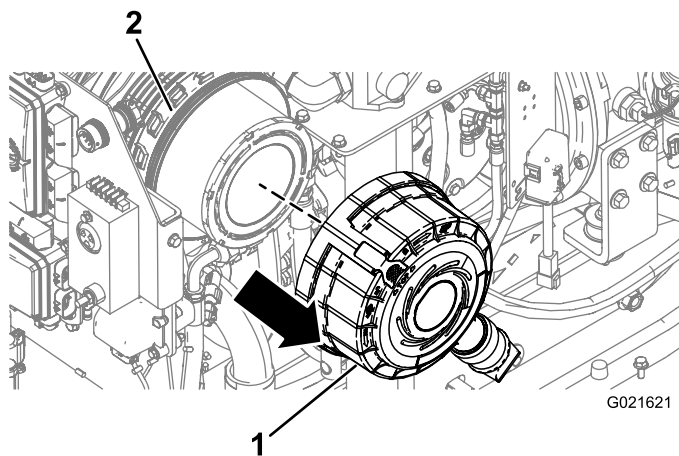

Figure 116
7. Pull the air-cleaner cover away from the filter housing and remove the cover (Figure 116).
3. Align the air cleaner filter cover with the filter housing (Figure 116).